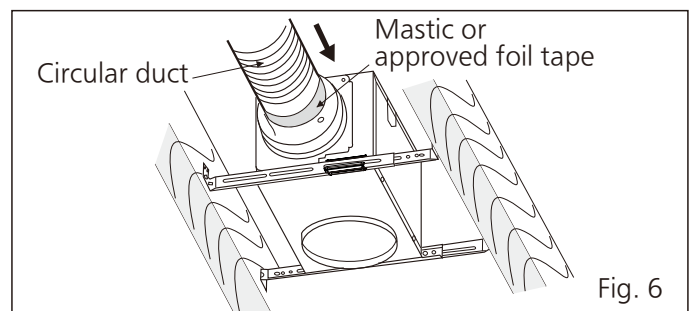

Fig. 6
10. Install a circular duct and secure it with clamps or wire ties, and seal it with mastic or approved foil tape. A 4 or 6-inch circular duct is needed to connect to the relevant part of adaptor. (Fig. 6)